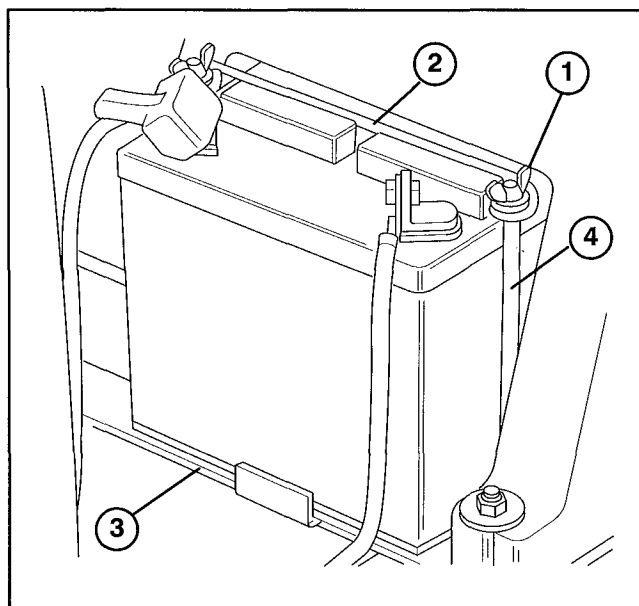

Figure 9
28. Remove wing nuts and washers securing battery clamp to battery bolts and remove battery from machine. Remove filler caps from battery and slowly fill each cell until electrolyte is just above the plates (Fig. 9).
32. Mount battery on battery pad with terminal posts toward rear of machine (Fig. 9).
33. Secure battery with to battery bolts with clamp, washers and wing nuts (Fig. 9).
34. Install the positive cable (rubber boot over end) to the positive (+) terminal and the negative cable (black) to the negative (-) terminal of the battery and secure with carriage bolts, lockwashers and nuts. Slide the rubber boot over the positive terminal to prevent possible short-out from occurring (Fig.9).